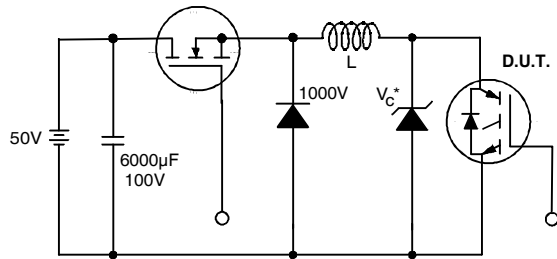

Figure 19. Clamped Inductive Load Test Circuit
- ②  $V_{CC}=80\%(V_{CES})$ ,  $V_{GE}=20V$ ,  $L=10\mu H$ ,  $R_G=100\Omega$  (figure 19)
- ③ Pulse width  $\leq 80\mu s$ ; duty factor  $\leq 0.1\%$ .
- ④ Pulse width  $5.0\mu s$ , single shot.